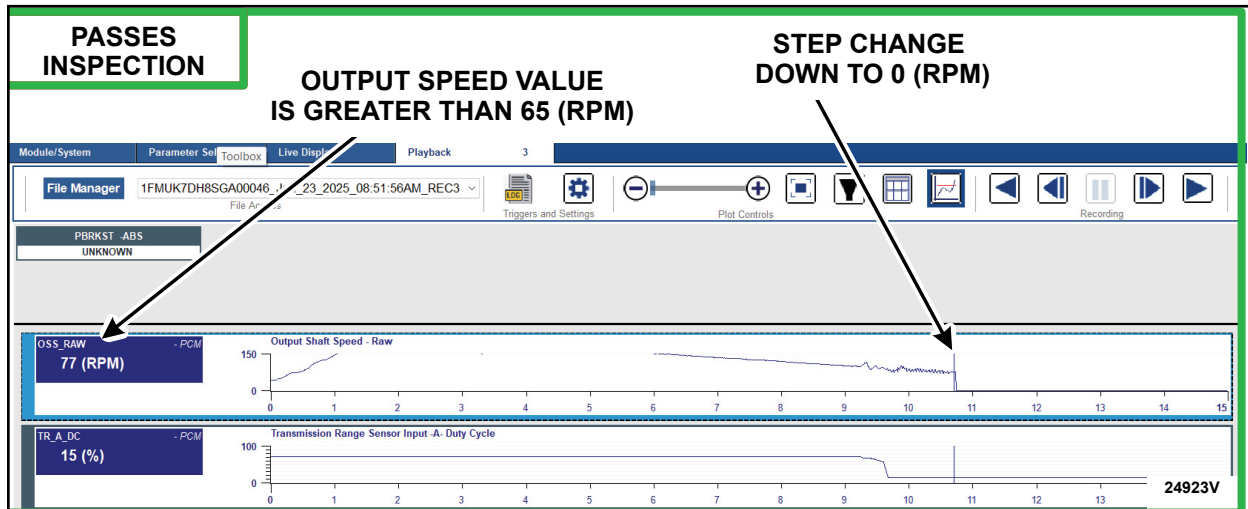

FIGURE 9
23. Did the output speed decrease in a step change from a speed of 65 RPM or above down to 0 RPM in BOTH tests? See Figures 9 through 11.